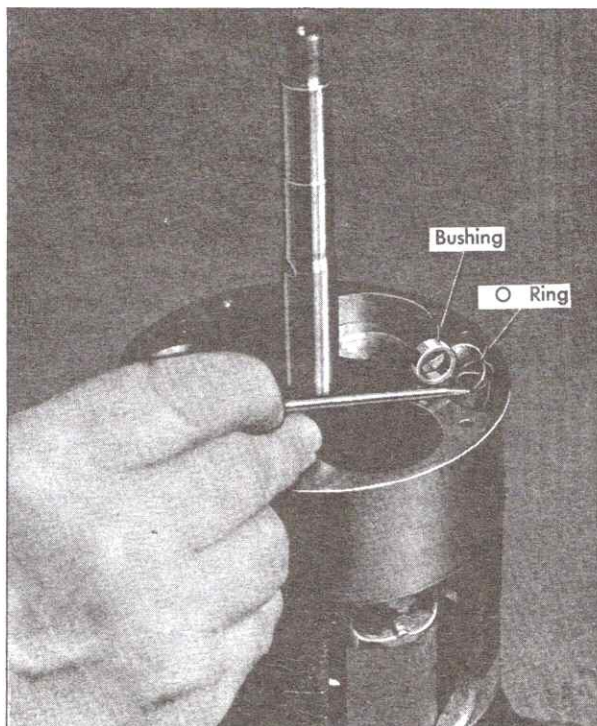

Fig. 1-62 Installing O-Ring on Cross-over Tube
2. Install new O-ring and bushing on front end of discharge cross-over tube, Fig. 1-62. The O-ring and bushing are service parts only for internal mechanisms that have been disassembled in the field.